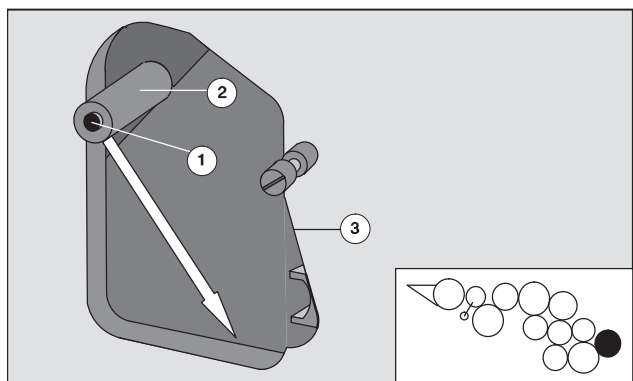

Fig. 21 Removing the 3rd inking form roller
3. Completely unscrew the Allen screw (Fig. 21/1) with the operator tool.
4. Pull sleeve (Fig. 21/2) off the shaft of the inking form roller.
6. Cautiously pull the roller from the shaft; do not damage roller at the side frame opening (Fig. 21/3).